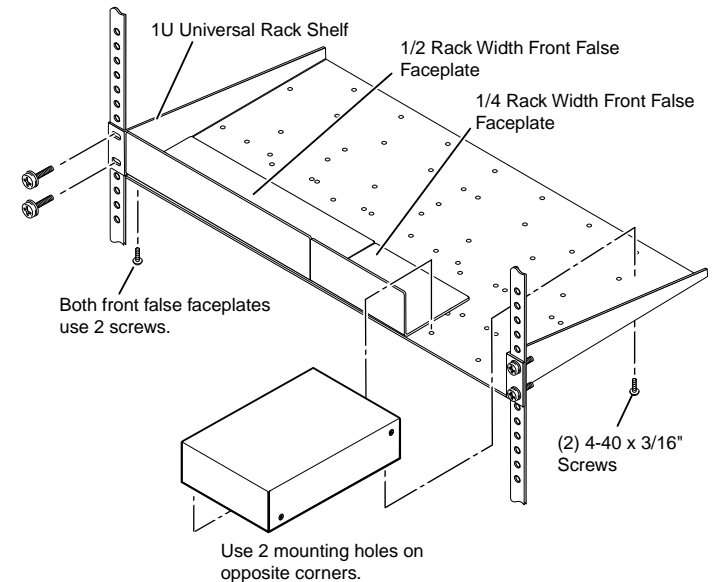

Figure 2-1 — Mounting the unit on a standard rack shelf
The following Underwriters Laboratories (UL) guidelines pertain to the installation of a FOXBOX 4G transmitter or receiver into a rack (figure 2-1).